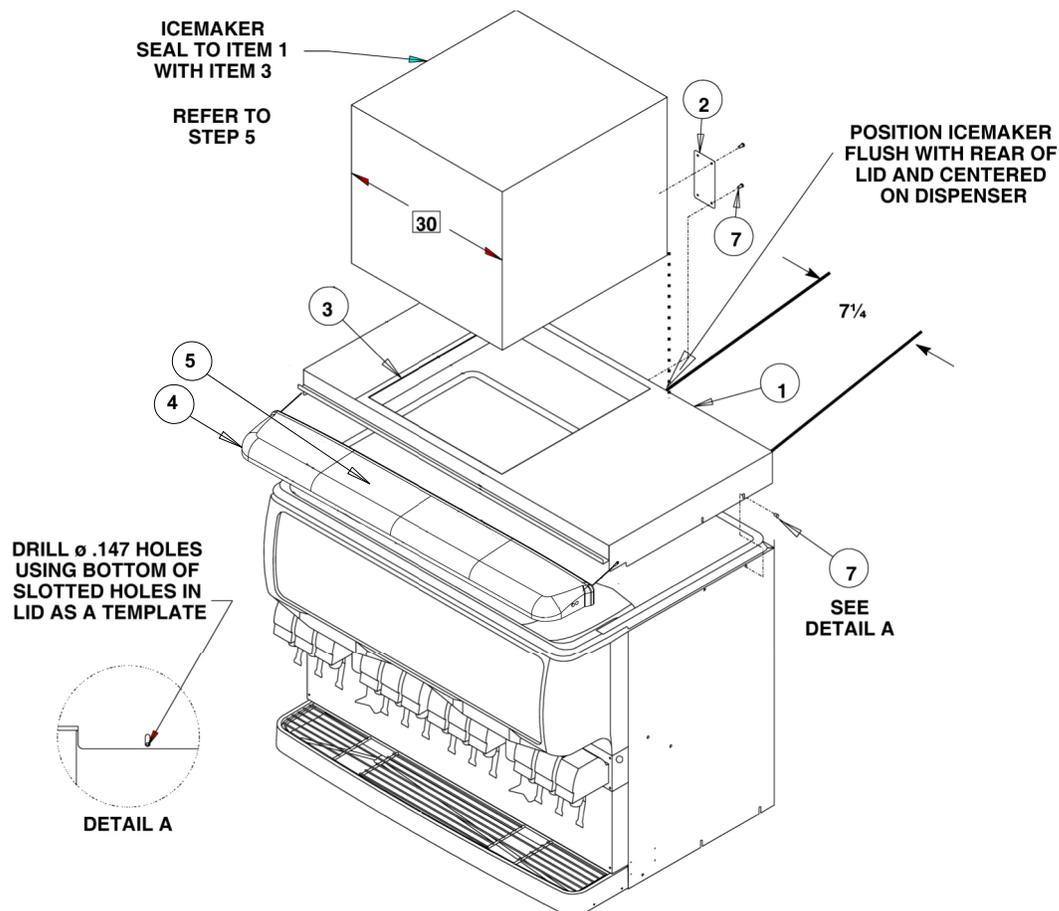

Figure 1. Dispenser
1. Remove the top plastic bin covers (2) from the dispenser.
2. Place the Adapter lid assembly (item 1) on top of the dispenser and position it flush with the rear and sides of the dispenser as shown in Figure 1.
4. Using the slotted holes in the lid as a template, drill (4) 0.147" diameter holes (#26 drill) at the bottom of the slots (see Figure 1. Detail A). **BE CAREFULLY NOT TO DRILL INTO THE ICE STORAGE BIN.** Secure the lid to the dispenser with (4) #10 sheet metal screws.
5. Seal the ice maker to the dispenser lid as follows (See Figure 1.).
- B. Set the ice maker onto the lid and position it as shown in Figure 1.
8. Locate the cleaning caution label (item 5) on the manual ice fill cover (item 4) as shown in Figure 1. Place the manual fill cover in position over the flange on the lid assembly and the front access hopper opening.